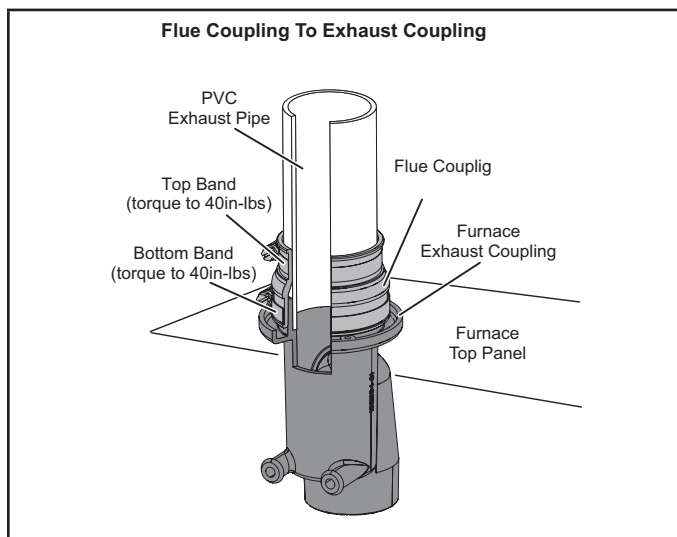

FIGURE 26
### Exhaust Piping (FIGURE 26, FIGURE 27 and FIGURE 28)
Use provided bands. See steps below and FIGURE 26.
- 3 - Insert PVC exhaust pipe through flue coupling. Ensure vent pipe is fully seated into exhaust coupling. Tighten both top and bottom bands to 40 in lbs. See FIGURE 26.